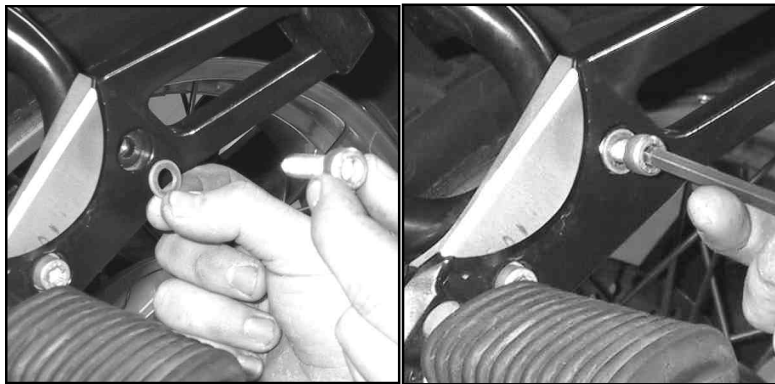

Figure 3
1. Install the M8 x 25 Screw and stock washer removed in Preparation Step 7 into the passenger peg. Torque to 15 ft.lbs. **(6mm Hex Key Wrench and Torque Wrench) Figure 3.**